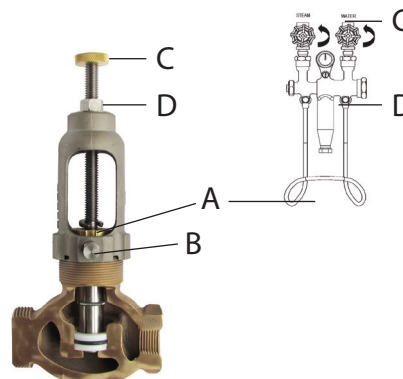

Fig. 1
- Second** Insert pulling tool into ring pocket making sure that puller housing is located evenly on neck of valve body. Slotted cap 'A' should rest on lantern as shown in Fig. 1. Rotate until pin 'B' can be pressed into slot and hold while knurled nut 'C' counter clockwise until refusal.